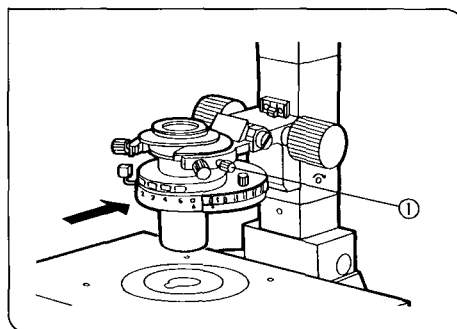

Fig. 29
(Fig. 29)
(Figs. 29, 30)
1. Loosen the condenser clamping knob ①. (Fig. 29)